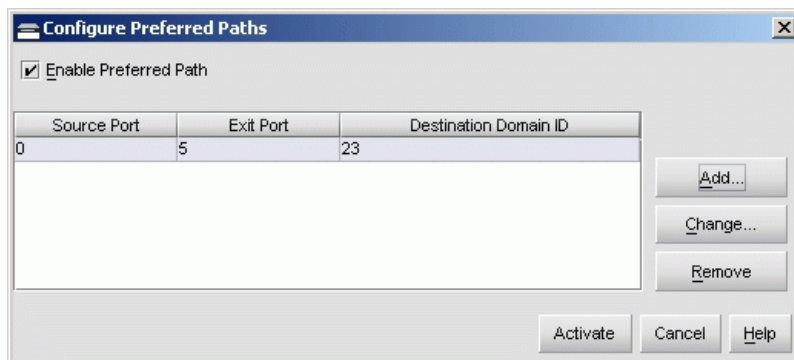

Figure 2-87 Configure Preferred Paths Dialog Box
1. At the *Hardware View*, select *Preferred Path* from the *Configure* menu. The *Configure Preferred Paths* dialog box displays (Figure 2-87 on page 2-95).